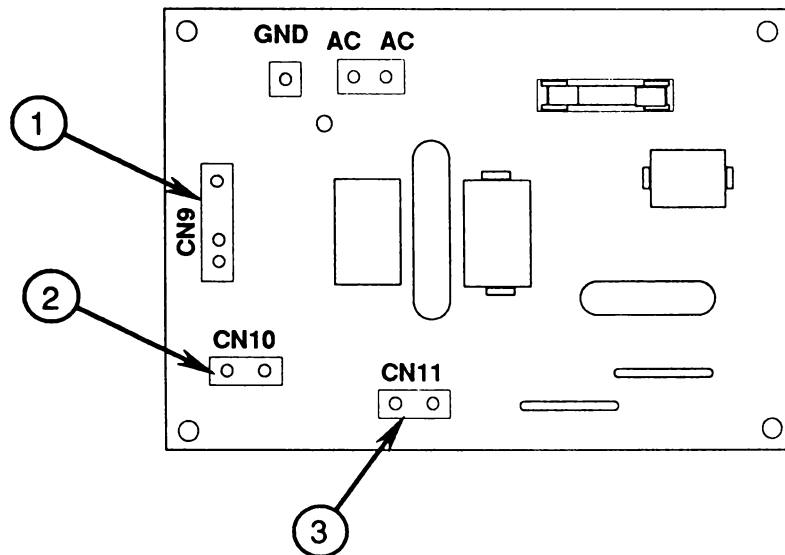

FIGURE 25
- CN9 – (green, black, white) (Figure 25, #1)
- CN10 – (white) (Figure 25, #2)
- CN11 – (red) (Figure 25, #3)